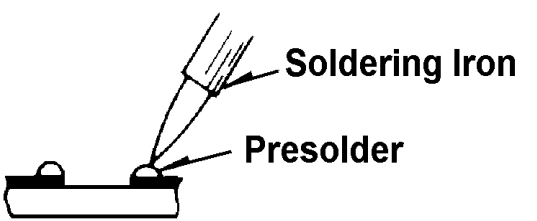

Fig.2-4, Chip Component Presolder
- a. Presolder the contact points on the circuit board (Fig. 2-4).